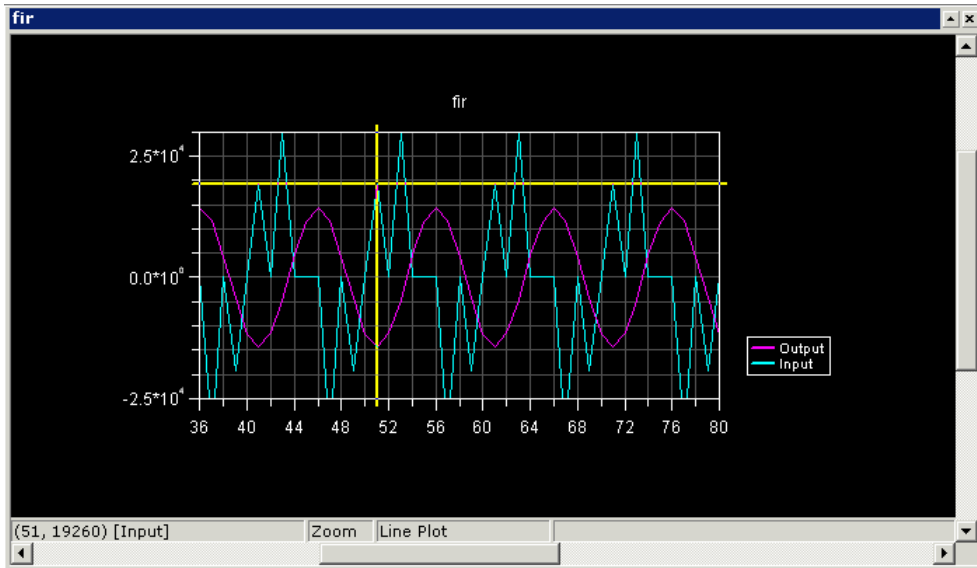

Figure 2-28. Plot Window: Using the Data Cursor Feature
3. Right-click inside the plot window and choose **Data Cursor** from the pop-up menu. Move to each data point in the current data set by pressing and holding the Left (\leftarrow) or Right (\rightarrow) arrow key on the keyboard. To switch data sets, press the Up (\uparrow) or Down (\downarrow) arrow key. The value of the current data point appears in the lower-left corner of the plot window, as shown in Figure 2-28.